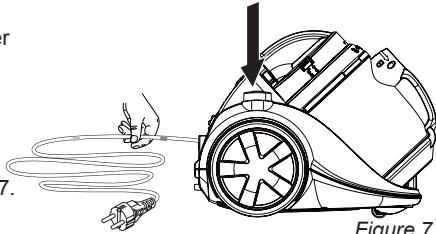

Figure 7
**⚠** Guide the power cord whilst it rewinds onto the reel, since otherwise the cord could become tangled or the plug could strike the back of the appliance. Take hold of the power cord near the mark, and allow it to gently slide through your fingers back into the appliance, see Figure 7.